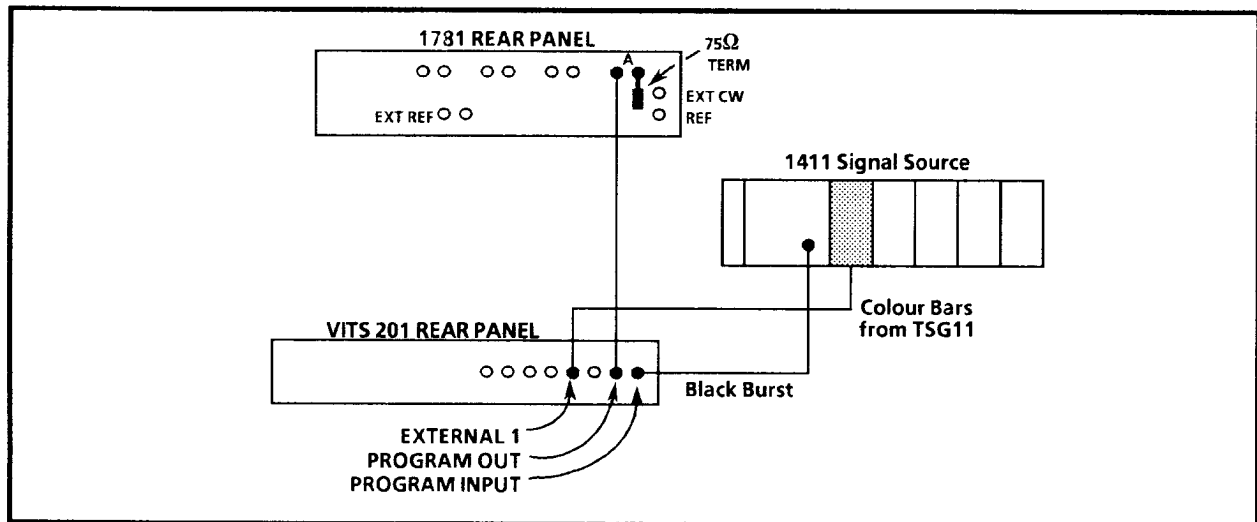

Figure 6-12. Equipment setup to adjust DC Levels.
- a. Connect the equipment as shown in Figure 6-12. Set S11-1 closed and -2 open.